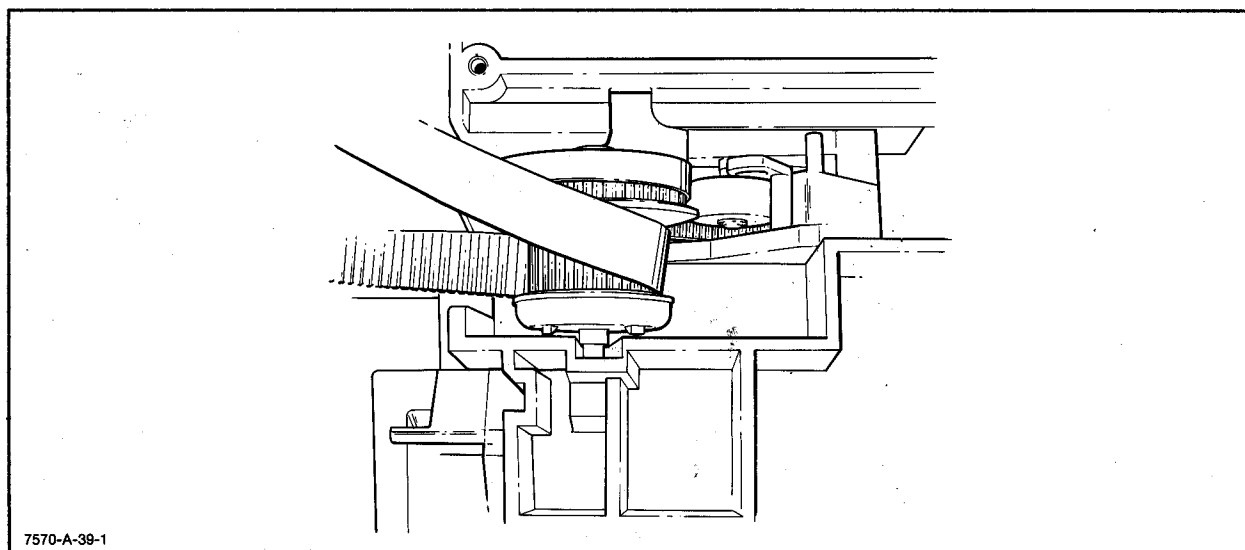

Figure 6-36. Double Pulley and Belt
- l. Remove the double pulley and the main belt from the top of the right-hand chassis assembly. See Figure 6-36.